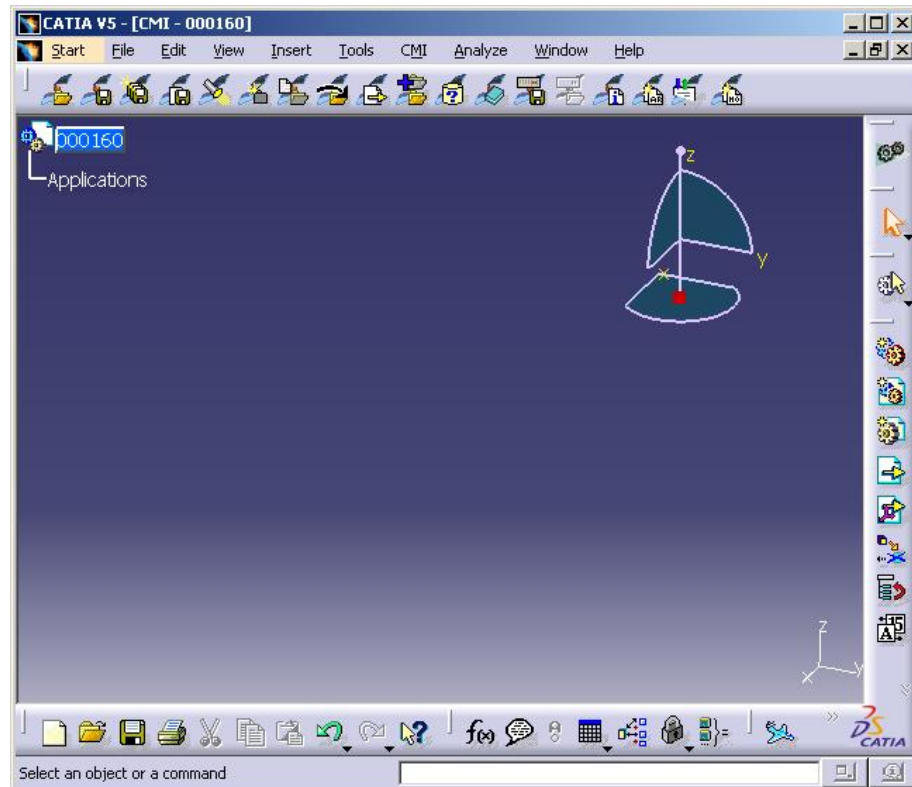
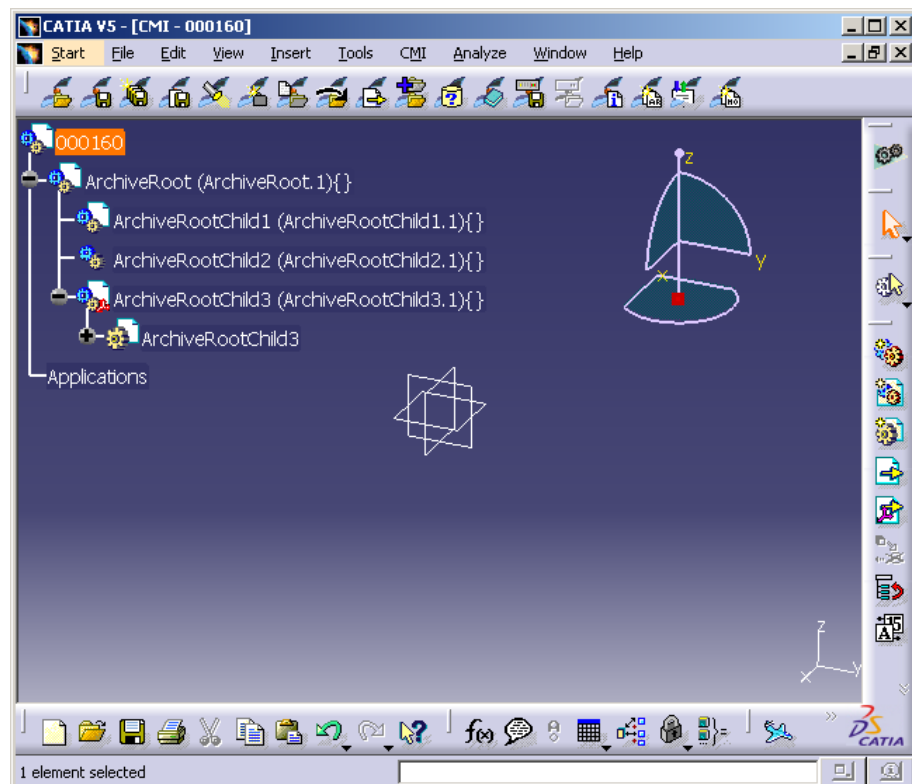

Figure 100: Loaded item 000160 in CATIA V5
Figure 101: CMIArchive root product with three children
Figure 100 shows the loaded product in CATIA V5. Now we add the structure which should be attached as CMIArchive as child items to the item 000160. In our example the three possible types are added under the root item (see Figure 101).
Select the root product which should be attached as CMIArchive (see “ArchiveRoot (ArchiveRoot.1)” in Figure 101). The parent object of the selected item must be loaded from CMI. The CMIArchive will be attached to an existing CMI structure by using the *Attach Archive* CMI toolbar button.